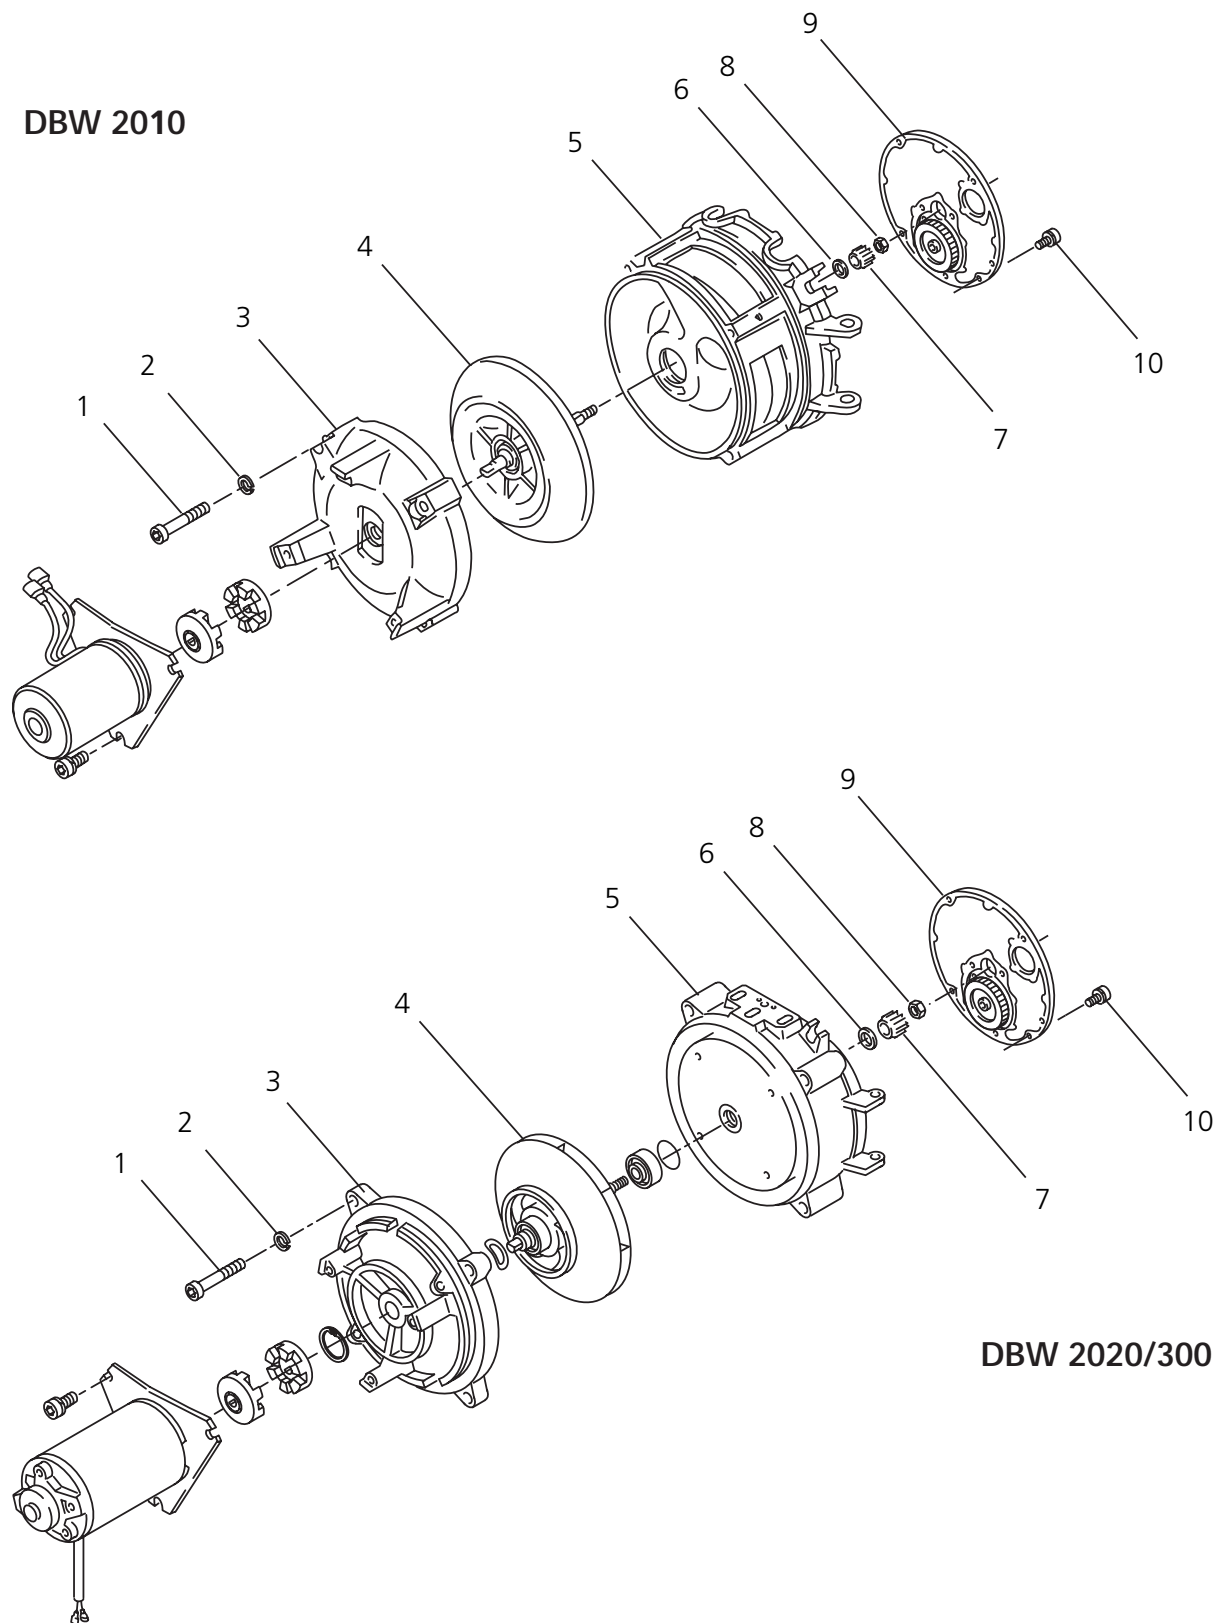
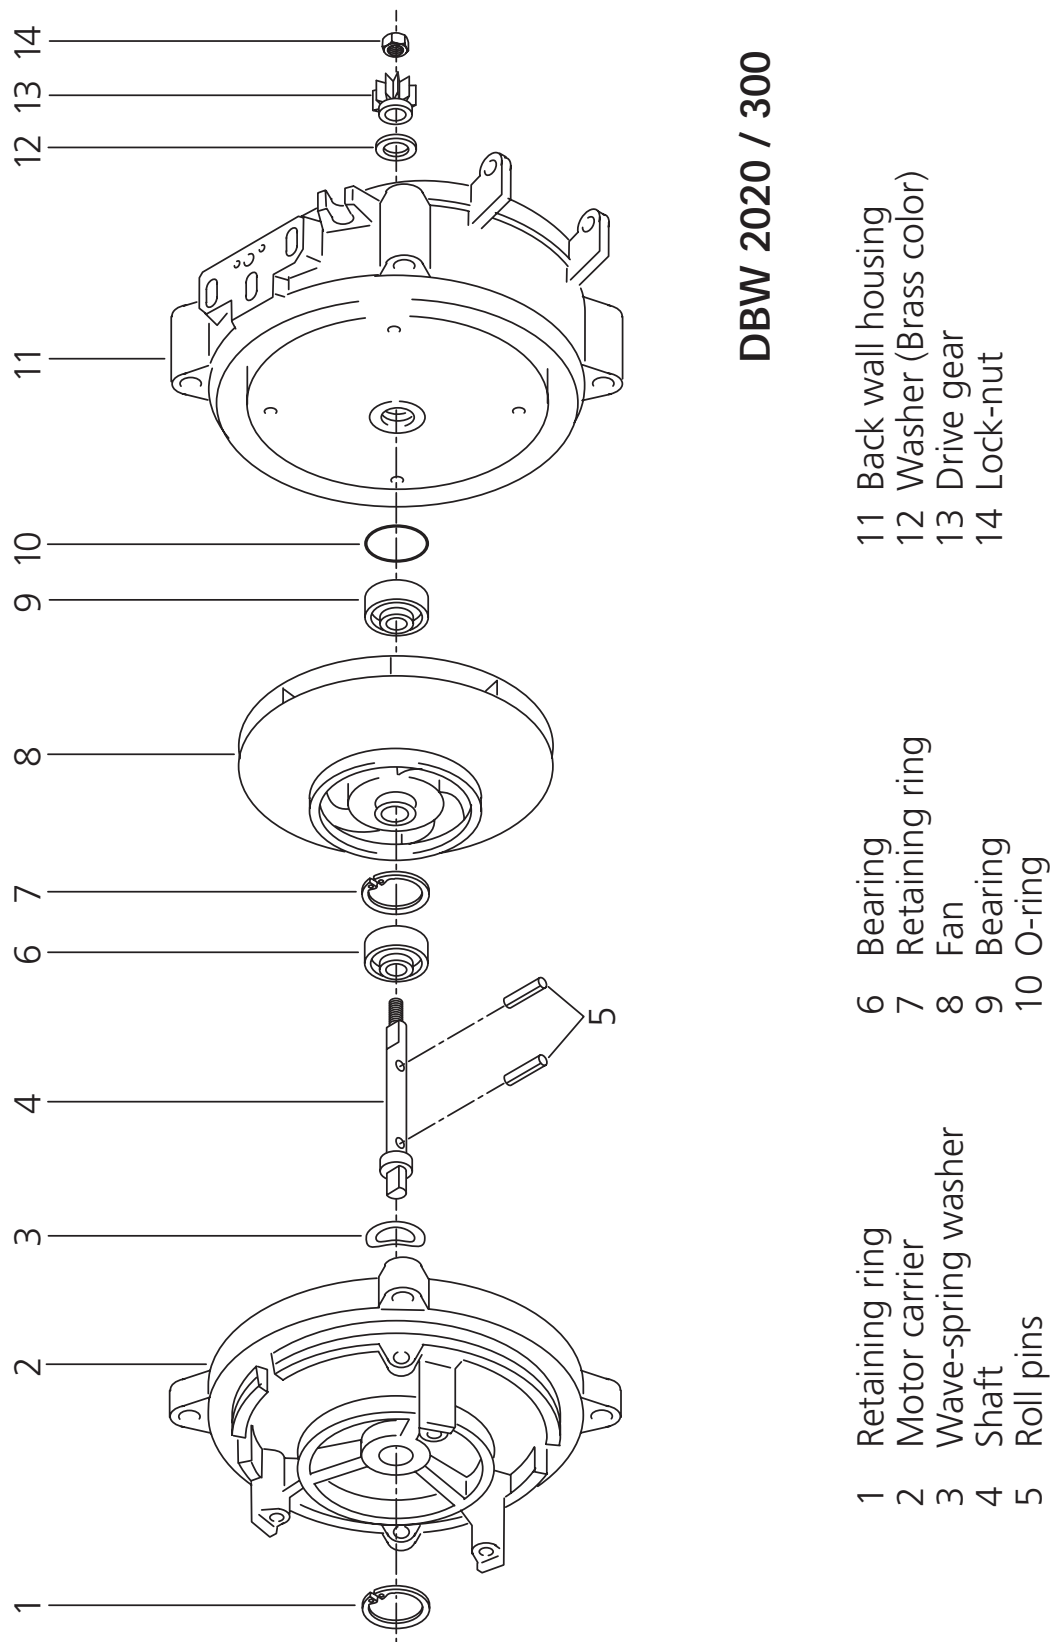

Figure 46: Fan Replacement
Figure 48: Exploded view - fan support assembly - DBW 2020/300
6. Remove four Allen Socket screws (item 1, Fig. 46) and washers (2) from motor carrier (3).
7. Remove four screws (10) from nozzle holder plate (9) and pull plate free.
11. Grasp motor carrier (item 3, Fig. 46) and with a slight rocking motion, work the motor carrier and fan (with bearing), free from housing (5).
2. Push fan with shaft through bearings and spacer of housing (item 5, Fig. 46)
3. Install washer (6), drive gear (7) and lock-nut (8).
6. Make sure O-ring (item 10, Fig. 48) in bearing recess of housing (item 5, Fig. 46) is present and in place.
7. Push fan assembly into housing (5) until motor carrier (3) is fully seated.
8. Install motor carrier (item 3, Fig. 46) over fan (4).